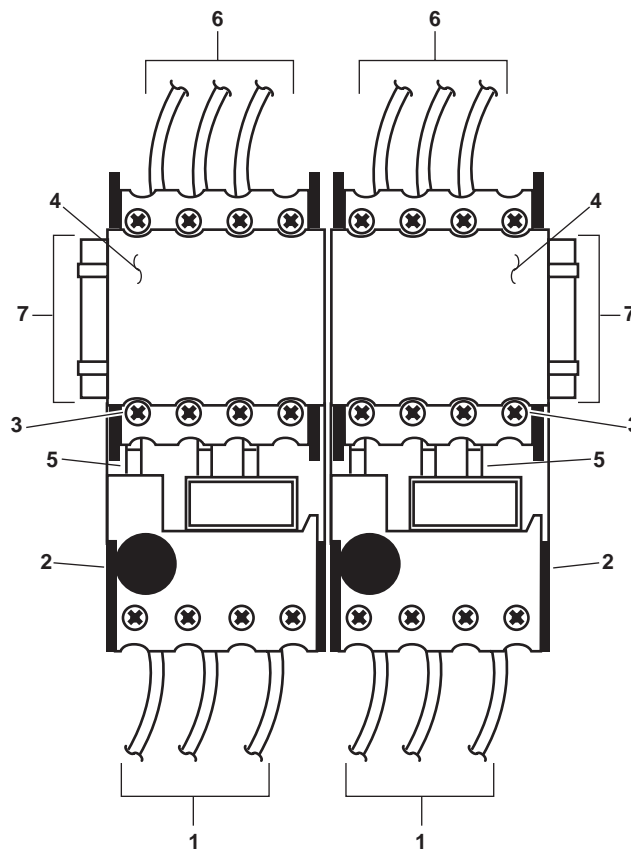

Figure 6. Overload Relay/Magnetic Controller
2. Label and disconnect the wiring (figure 6, item 1) on the load side of the overload relay (figure 6, item 2).
3. Loosen the clamping screws (figure 6, item 3) on the load side of the magnetic contactor (figure 6, item 4) that secure the line leads (figure 6, item 5).
4. Allow the front side of the overload relay (figure 6, item 2) to drop down, and lift the rear of the overload relay to remove it from the magnetic contactor (figure 6, item 4).
1. Position the rear of the overload relay (figure 6, item 2) into the retaining slot in the magnetic contactor (figure 6, item 4).
2. Lift the front of the overload relay (figure 6, item 2) and install the line leads (figure 6, item 5).
3. Secure the line side leads (figure 6, item 5) by tightening the clamping screws (figure 6, item 3).
4. Connect the wiring (figure 6, item 1) using the labels from step 2 of Removal as a guide. Discard the labels.
2. Label and disconnect the wiring (figure 6, item 6) from the line side of the magnetic contactor (figure 6, item 4).
3. Slide the magnetic contactor (figure 6, item 4) sideways to remove it from the enclosure.
1. Install the magnetic contactor (figure 6, item 4) in the enclosure by sliding it onto the rail (figure 6, item 7).
2. Connect the wiring (figure 6, items 6) using the labels from step 2 of Removal as a guide. Discard the labels.